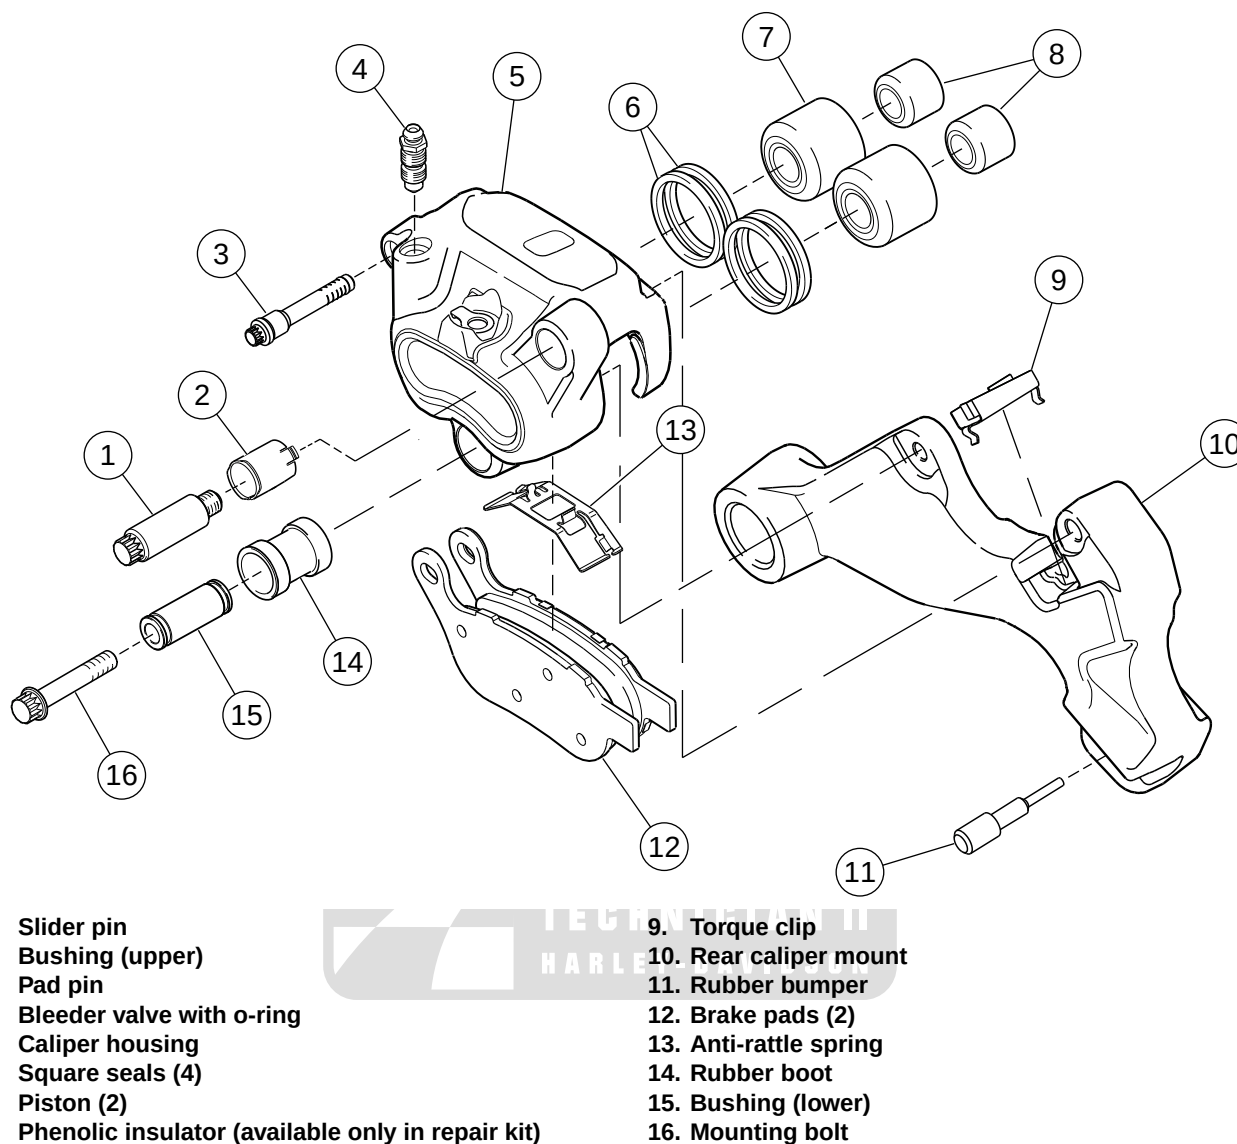
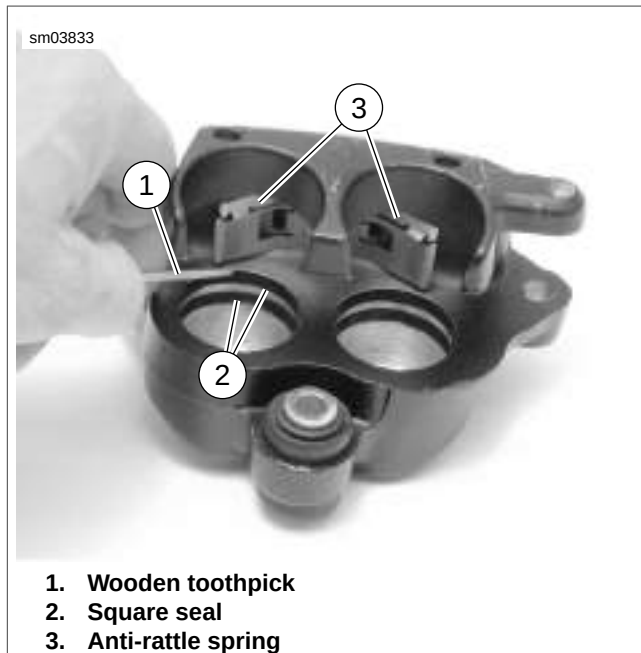

Figure 2-76. Rear Brake Caliper
Figure 2-78. Seals and Spring
1. See Figure 2-76. Remove pad pin (3) and brake pads (12).
2. If necessary, remove bleeder valve (4).
5. See Figure 2-78. Using a wooden toothpick (1), remove two square seals (2) from each caliper bore. Discard all removed parts.
6. Pull anti-rattle spring (3) straight out to remove.
- e. See Figure 2-76. Inspect rubber boot (14) for cracks and damage. Inspect bushing (15) for free movement. Inspect bushing (2) for free movement or damage.
2. See Figure 2-78. Install two **new** square seals (2) into each piston bore. Use a wooden toothpick (1) to aid installation if needed.
3. Install anti-rattle spring (3). Ensure it is oriented correctly.
5. See Figure 2-76. Install bleeder valve (4) (with o-ring) in caliper housing, if removed, and tighten to 80-100 **in-lbs** (9.0-11.3 Nm).
Anti-rattle spring orientation matches Figure 2-76.
2. See Figure 2-76. Ensure torque clip (9) is in place in caliper mount.